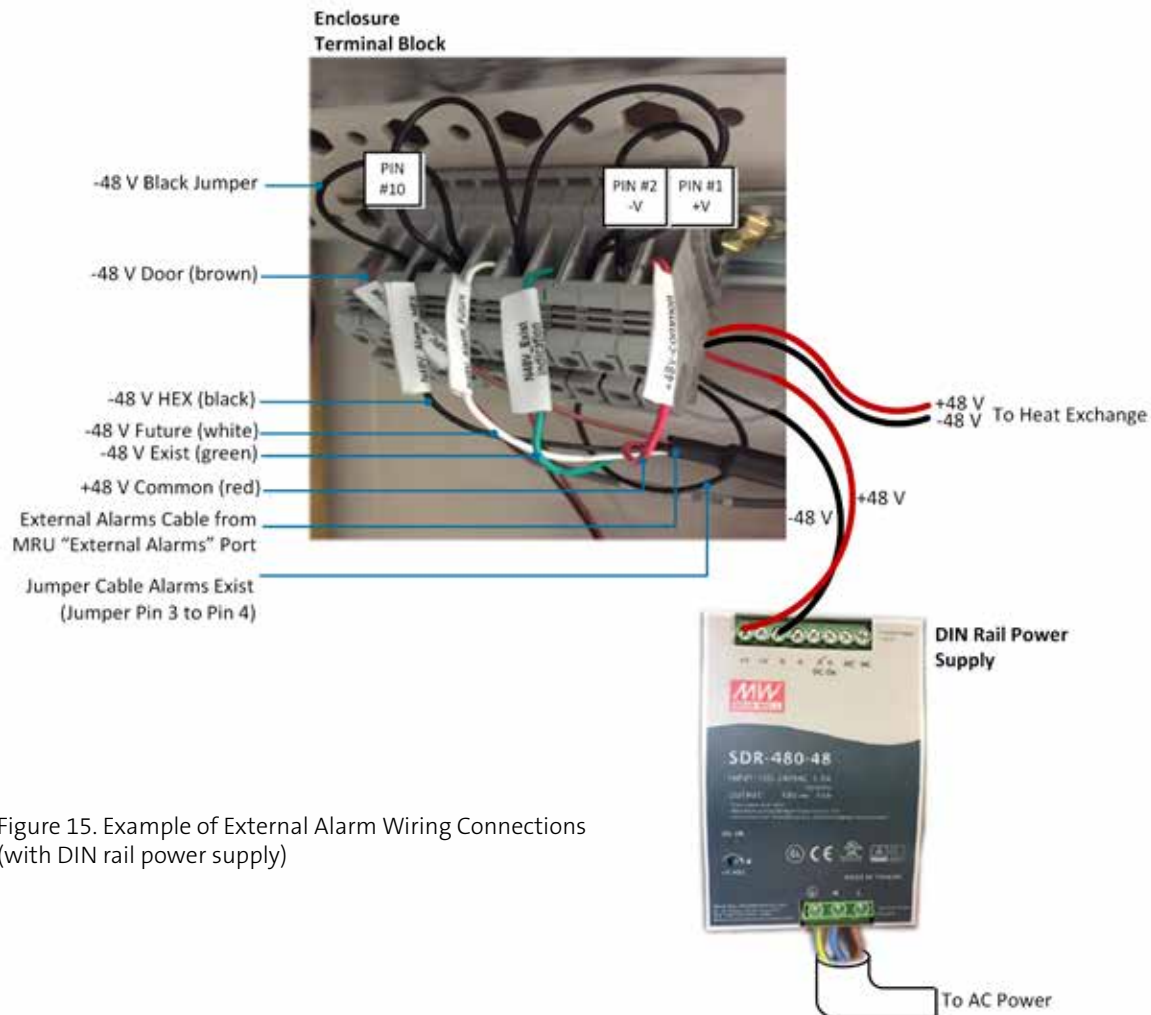

Figure 15. Example of External Alarm Wiring Connections (with DIN rail power supply)
Step 11: Connect the 2 A gauge double insulation wire from the SDR to AC inlet power. See Figure 15 for illustration of connections between external enclosure and DIN rail power supply.
Refer to Table 5 for wiring description of MRU external alarms connector and to Figure 15 for examples of the upper and lower cabinet block wiring connections.